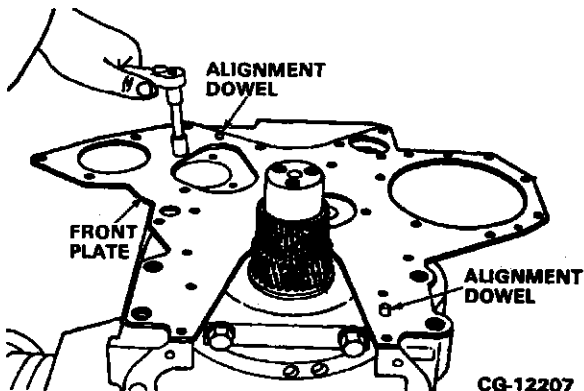

Figure 8.15. Remove Front Plate and Gasket
- Remove the four retaining bolts which secure the front plate to the crankcase. Refer to Figure 8.15.